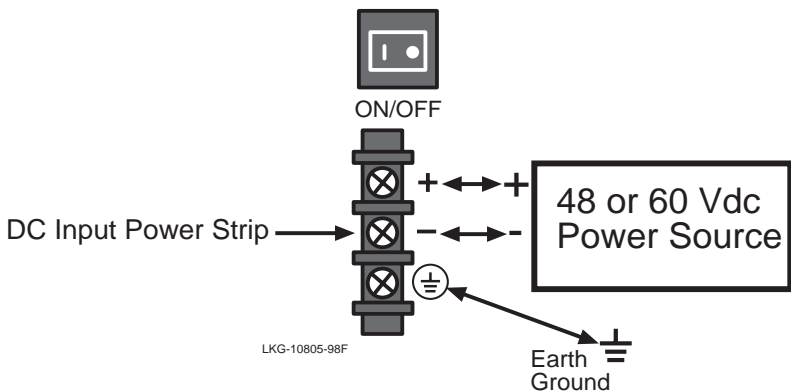

Figure 3-7 48/60 Vdc Power Supply Connections
To connect the HA205-MD to a 48/60 Vdc power source, face the front of the power supply, then refer to Figure 3-7 and proceed as follows:
2. Refer to Figure 3-7 for the proper connections to a 48/60 Vdc power source. Then connect the output leads of the 48/60 Vdc power source being used to the negative (-) and positive (+) terminals on the dc input power strip.